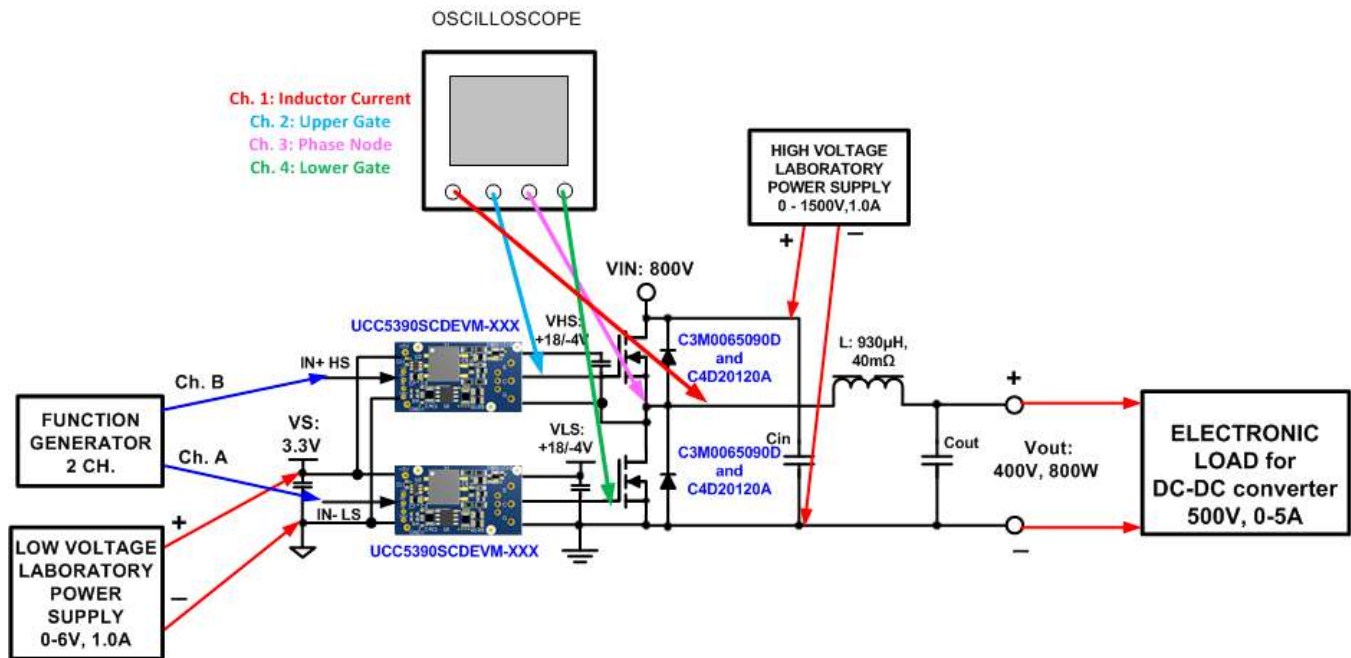

Figure 5. Test Setup for UCC5390SCDEVM-010 System Level Evaluation
The supply voltage and input signals for driver U1 and bias supply U2 are applied through header J1. Capacitors C3, C7, and C8 are located as close as possible to the VCC1 and GND1 terminals of U1 and U2, to minimize EMI while operating as part of high dv/dt and di/dt power system. Resistors R2 and R3 and capacitors C1 and C2 provide additional filtering to protect input signals. These filters are optional and may not be used in the systems where noise is limited. The secondary side noise decoupling is provided by capacitors C2, C6, C9, C10, and C11. Split outputs of the driver U1 through gate resistors R1 and R4 are connected to FETs Q1 and Q2. These FETs are not populated on the board and their through hole footprints are used to solder the board for evaluation on a system level, as it is shown in Figure 5. On this board, the gate resistors have been selected at 1 Ω . However, as was described in Section 4.1, gate resistor values determine switching rise and fall time with the power losses inside the driver IC, therefore their values can be changed for specific requirements. Capacitor C5 can be used to estimate drive current capability by measuring rise and fall time using the board separately. It is not populated on boards intended to be used in a power system.
Figure 5 shows an example of the EVM evaluation as part of a system arranged as a buck converter.
1. Before beginning the power up test procedure, verify the connections in Figure 5 and the function generator and oscilloscope settings.